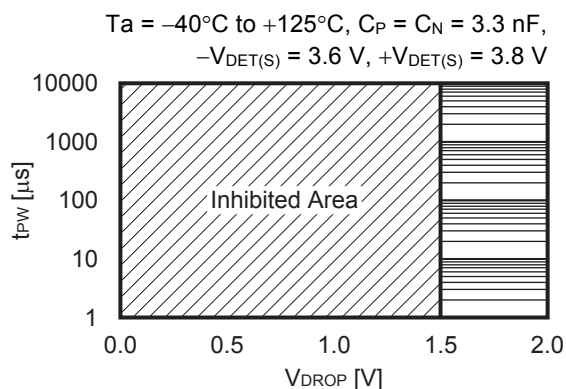
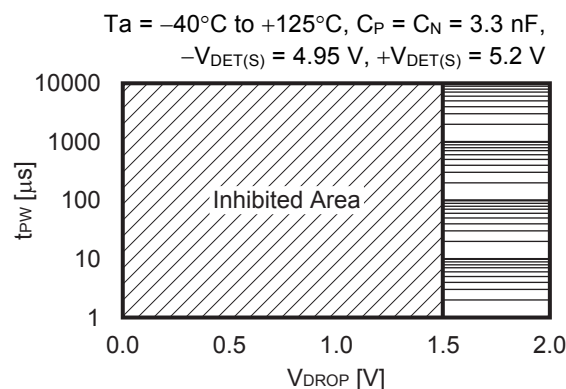

Figure 54
Figure 55
Figure 54 and **Figure 55** show the relation between pulse width (t_{PW}) and V_{DD} lower limit (V_{DROP}) where a release signal can be output after the normal release delay time has elapsed when the V_{DD} pin (V_{DD} detection product) instantaneously drops to the detection voltage ($-V_{DET}$) or lower and then increases to the release voltage ($+V_{DET}$) or higher during release delay time.
1. **Figure 54** and **Figure 55** show the input voltage conditions when a release signal is output after the normal release delay time has elapsed. When this is within the inhibited area, release may erroneously be executed before the delay time completes.
2. When the V_{DD} pin voltage is within the inhibited areas shown in **Figure 54** and **Figure 55** during release delay time, input 0 V to the V_{DD} pin then restart the S-19110 Series.